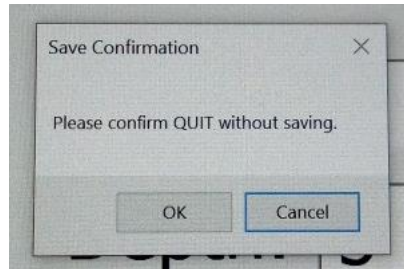

Figure 15: QUIT without saving confirmation prompt.
3. A prompt will come up on the screen (Figure 15). Press either BACK or TAB to toggle to OK and then ENTER to confirm quit without saving.